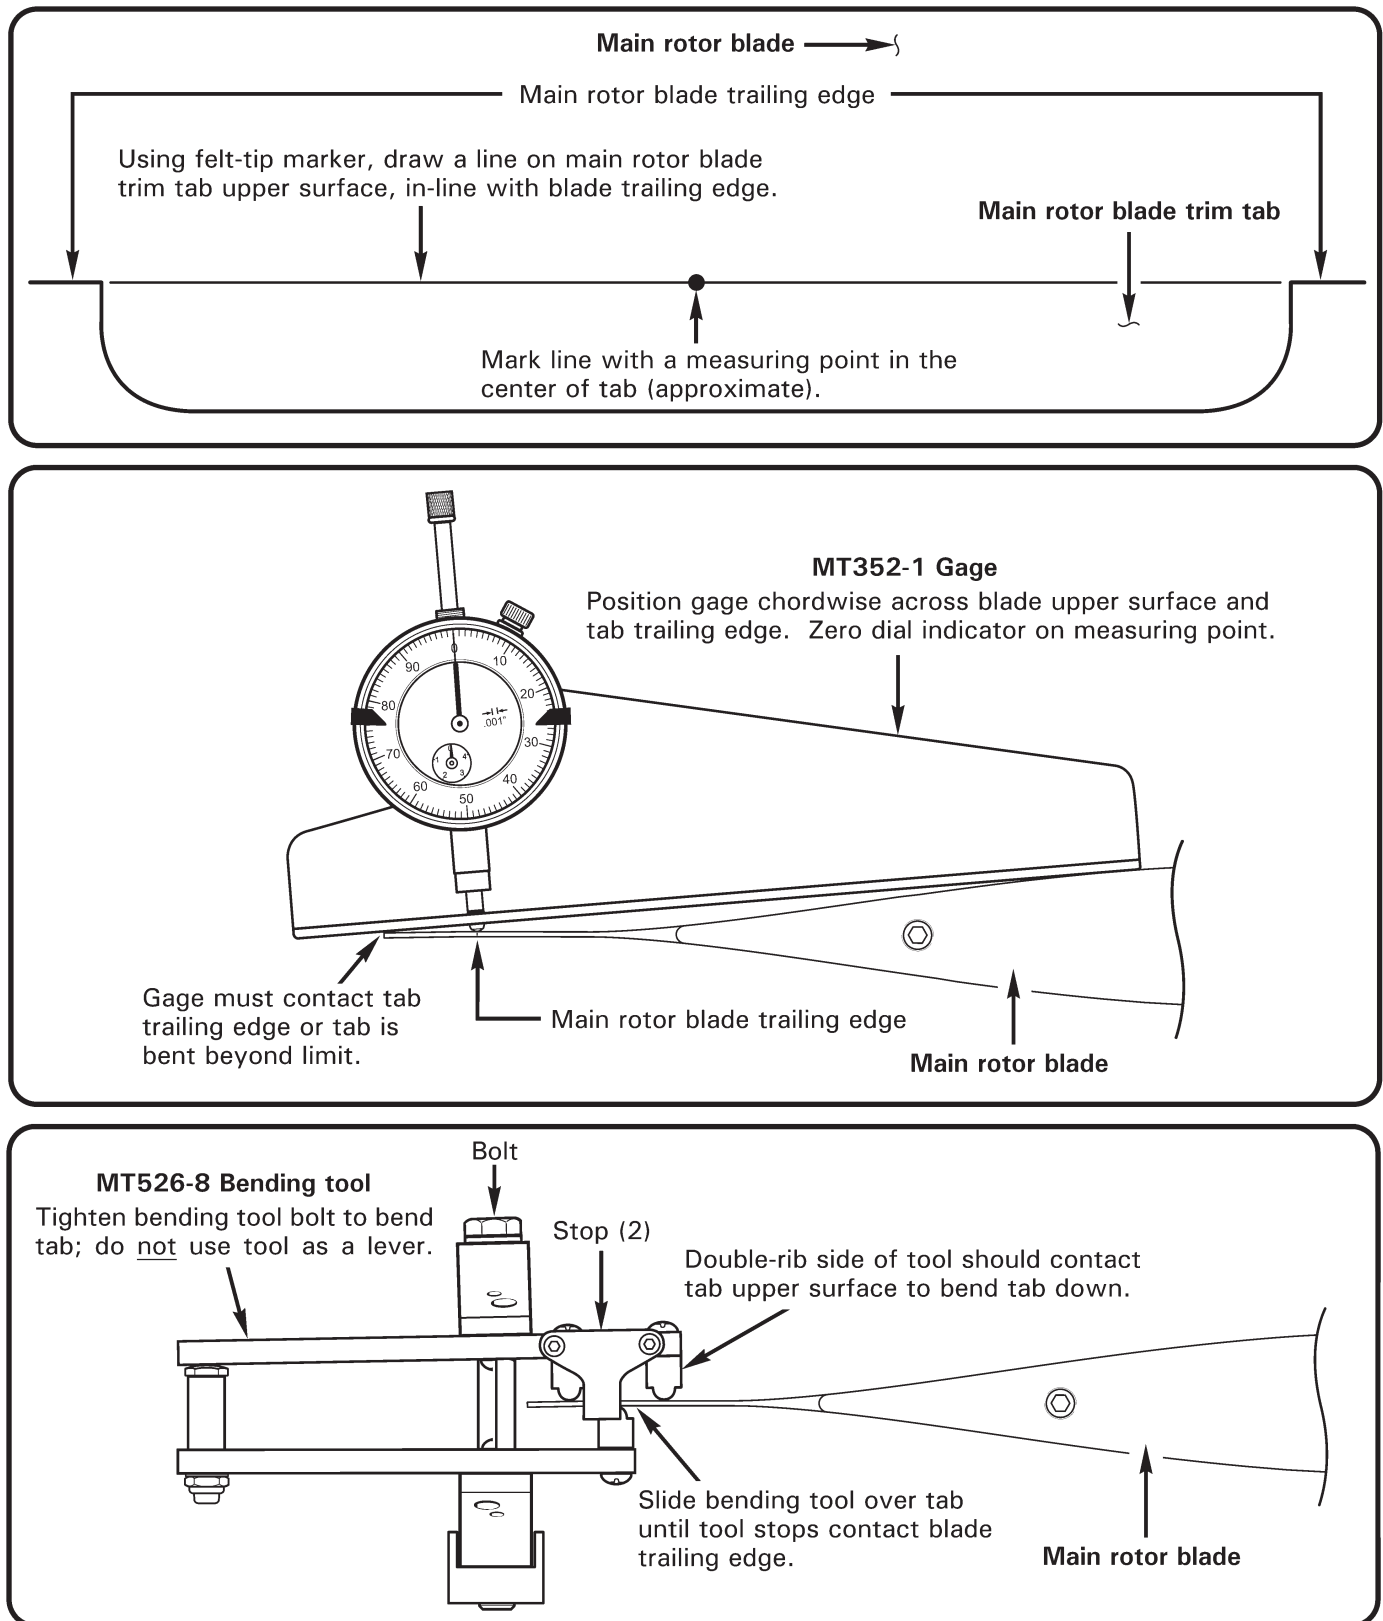

FIGURE 10-13 MAIN ROTOR BLADE TRIM TAB
1. Using felt tip marker, ink mark main rotor blade trim tab per Figure 10-13. Mark line with a measuring point in the center of the tab (approximate).
3. Position MT526-8 bending tool on tab per Figure 10-13. Slide tool completely over tab until tool stops contact blade trailing edge. Double-rib side of tool should contact tab upper surface to bend tab down. Double-rib side of tool should contact tab bottom surface to bend tab up.